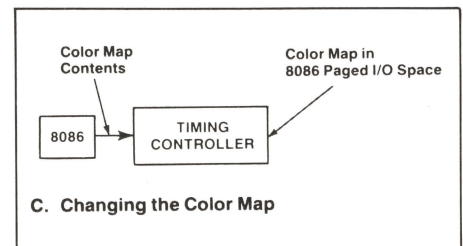

Figure 2. A separate memory holds the color information for the graphics image.
Figure 2. A) An object is drawn using a combination of the basic item types. The user-defined background grid is displayed to help position and size the figure. B) Crosshatching and symbols further define the object. C) The entire figure is defined as a workset. Then it is rescaled using one of the system's copy functions. D) The image appears on a color graphics terminal with annotation and dimensions highlighted in separate colors.
TekniCAD helps you create and edit drawings with a minimum amount of error and duplicated effort (figure 2). Any image can be created by combining TekniCAD's eight basic item types (which are lines, points, arcs, notes, dimensions, arrows, symbols and
*Escape sequence* data and parameters defining surface color maps are converted by the 8086 microprocessor to *color map* data and stored in the Timing Controller's memory (figure 2).